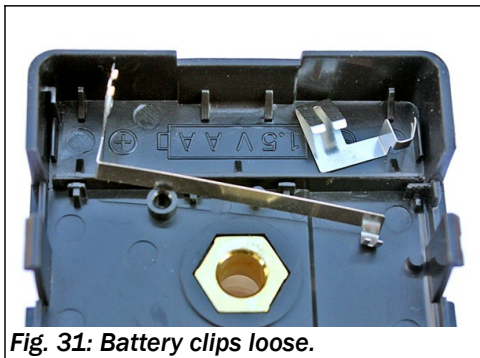

Fig. 31: Battery clips loose.
- ☐ Lift the movement out of the case and set it aside. Tap the case against a table to loosen both battery clips, or pull them loose with your fingers or pliers (Fig. 31). Discard the battery clips – they are not used in fast-time movements.